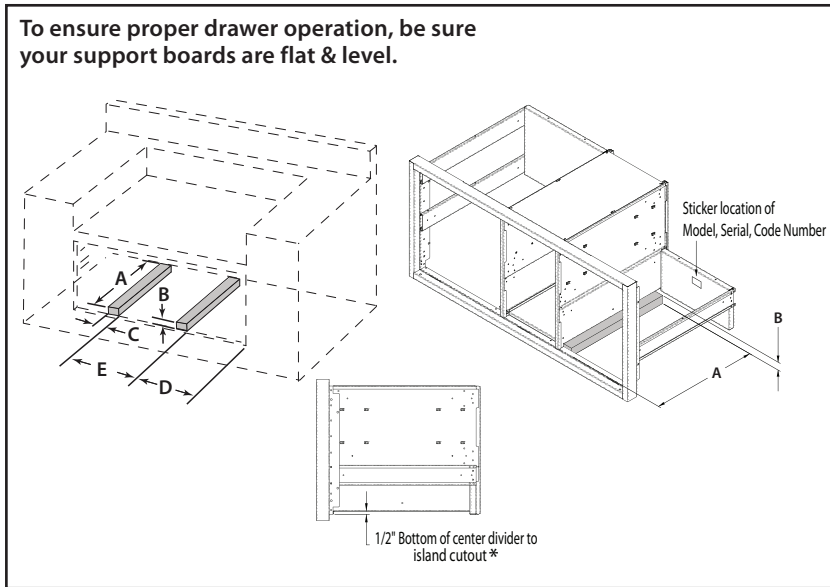

Fig. 4
2. Place 2 X 4s to provide support for the Access Drawers structure in the locations indicated in the figure below (Fig. 4).
5. Ensure that the bottom of the center divider rests on top of the support boards as shown (Fig. 4).